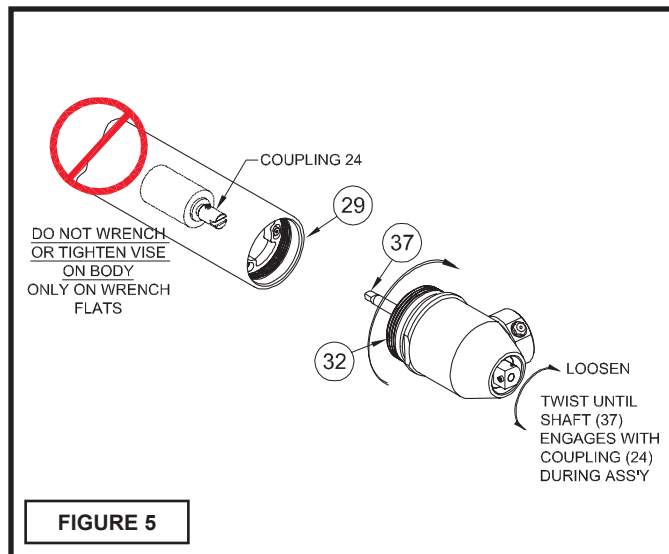

FIGURE 5
See Figure 5
**IMPORTANT!** The spray head assembly (32) has **LEFT HAND** threads. Tighten and loosen per directional arrow on Figure 5.
See Figure 5.
**IMPORTANT !** The spray head assembly (32) has **LEFT HAND** threads. Tighten and loosen per directional arrow on Figure 5.